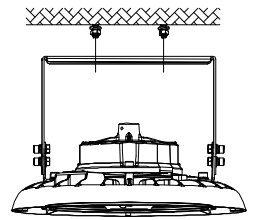
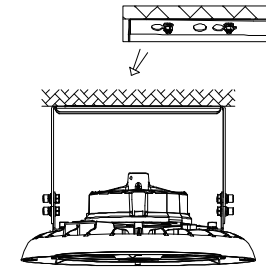

Figure 5
Figure 6
3. Align the bracket hole with the screw hole (refer to Figure 5), push the fixture to one side (refer to Figure 6), and secure it.